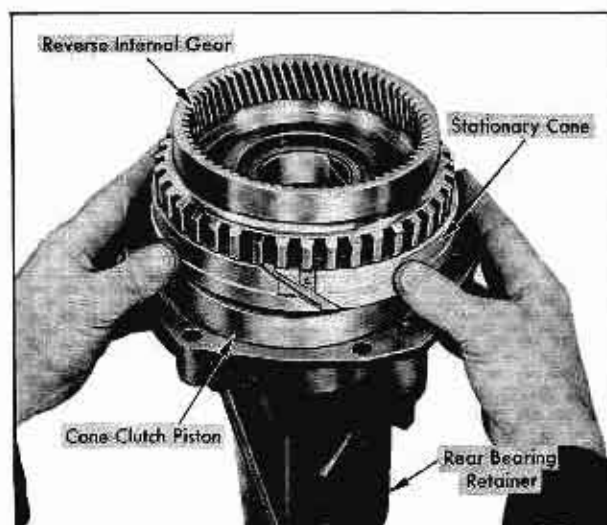

Fig. 14-46 Installing Stationary Cone
22. Install reverse internal gear and stationary cone into rear bearing retainer by compressing stationary cone by hand. (Position keyway of stationary cone so it will line up with keyway in case when installed.) Fig. 14-46.